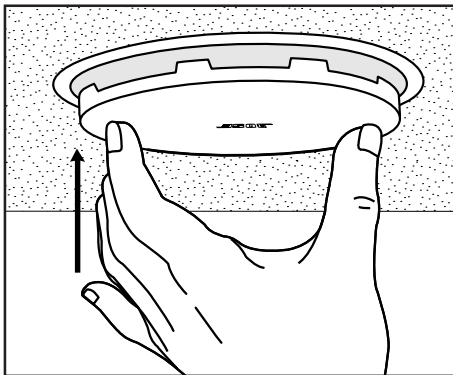

Figure 24
2. Push up on the grille until it is flush with the loudspeaker rim (Figure 24).